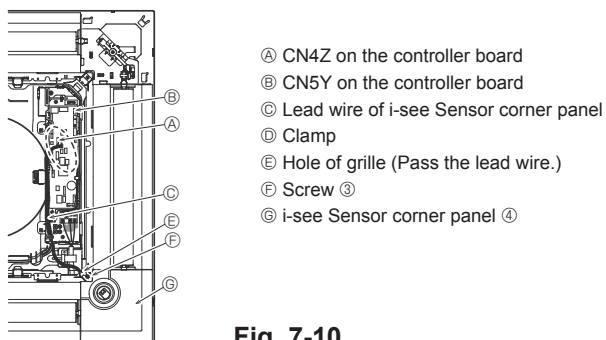

Fig. 7-10
7.4.6. Installation of i-see Sensor corner panel (Fig. 7-10)
- Route the lead wire connector (white, 4 poles and white, 5 poles) of the i-see Sensor corner panel ④ from the side of the electrical box on the main unit and connect to the connector CN4Z and CN5Y on the controller board.